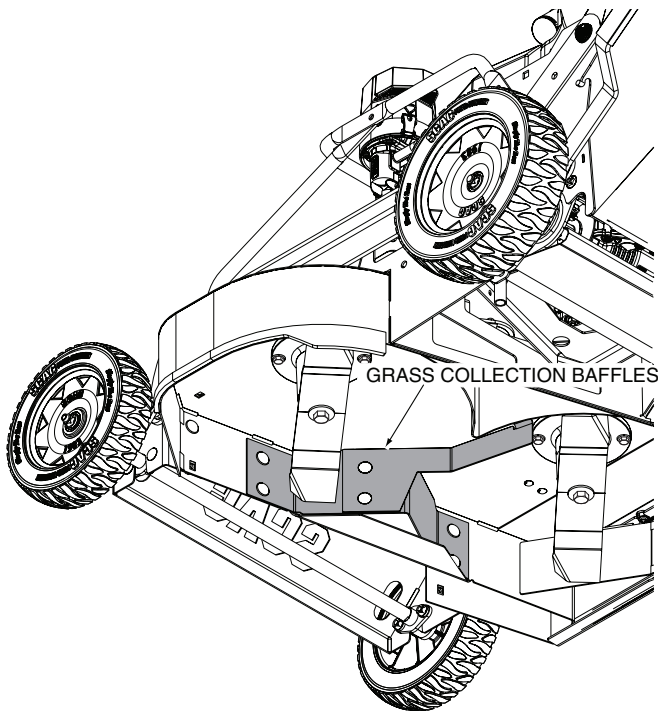

Figure 6-16. Grass Collection Baffle
5. Reinstall the grass collection baffles from the cutter deck. See Figure 6-16.